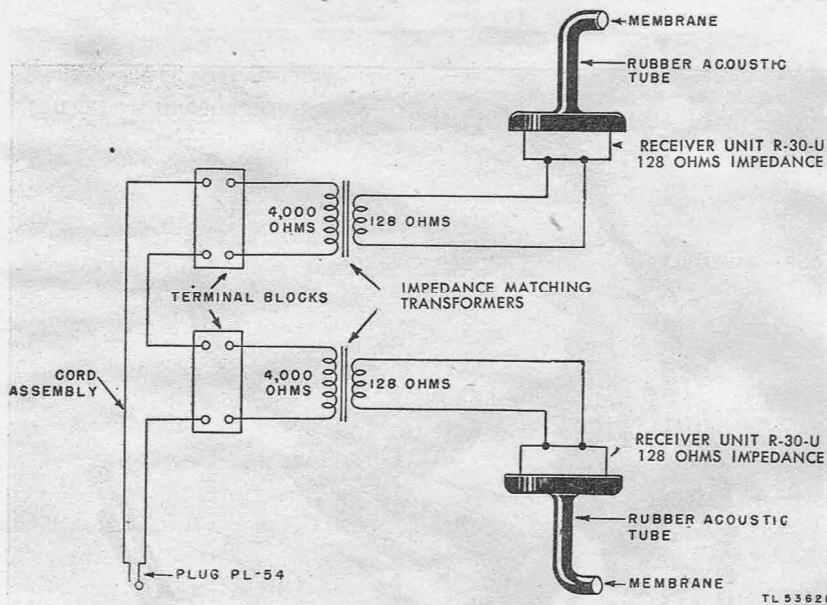

Figure 3. Headset H-16/U, schematic diagram.
(1) CHASSIS ASSEMBLY. Each chassis assembly contains a terminal block, an impedance matching transformer, a rubber acoustic tube, and Receiver Unit R-30-U. The electrical connection of the headset is shown in figure 3.